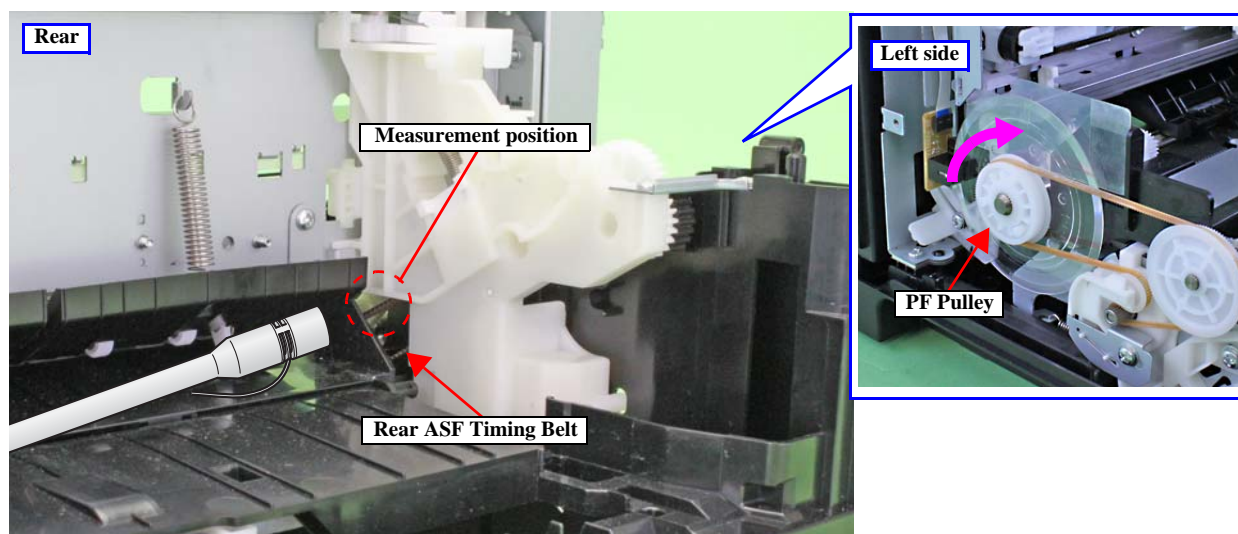

Figure 5-2. Rear ASF Timing Belt Tension Check
2. Bring the microphone of the sonic tension gauge close to the Rear ASF Timing Belt on the position shown in Figure 5-2.